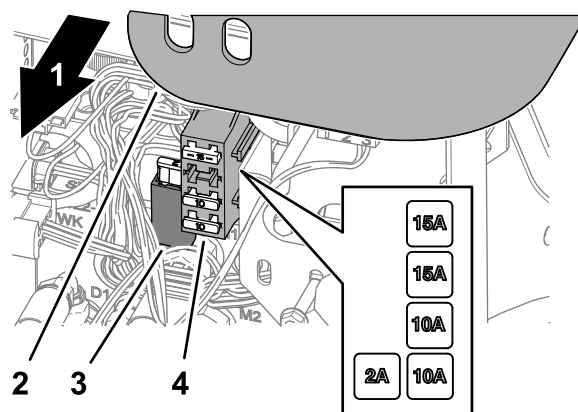

Figure 75
1. Lift the cover from the control arm (Figure 75).
2. Locate the open fuse in the fuse holder or fuse block (Figure 75).
4. Assemble the cover onto the control arm (Figure 75).